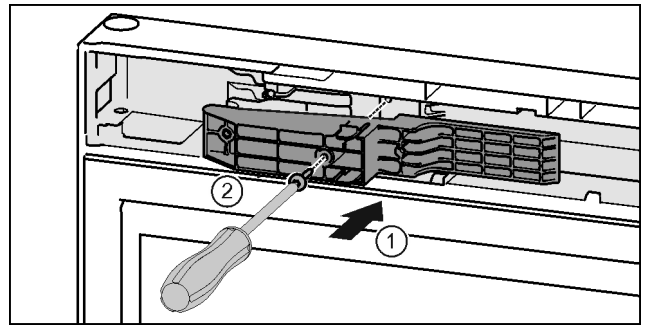

Fig. 46 *
- ▶ Install the adapter on the handle side of the slot. Fig. 46 (1)*
- ▶ Tighten the screws with the T15 screwdriver. Fig. 46 (2)*